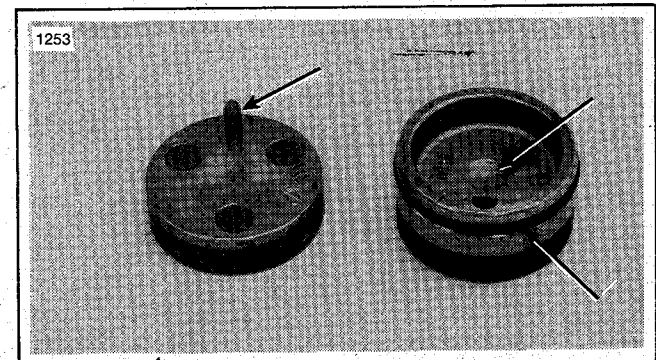

Figure 2-23. Lube These Points
- Lubricate mounting pin (1, Figure 2-23) on new stationary brake puck, center of new floating brake puck and O-ring on floating brake puck. Use all purpose grease.